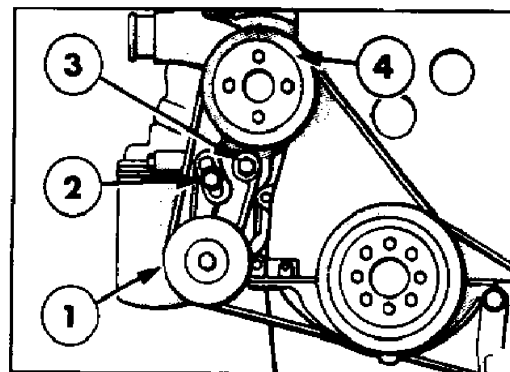

Fig. b1 - Water pump drive belt.
1. Slacken the idler pulley mounting and adjusting bolts (Fig. b1).